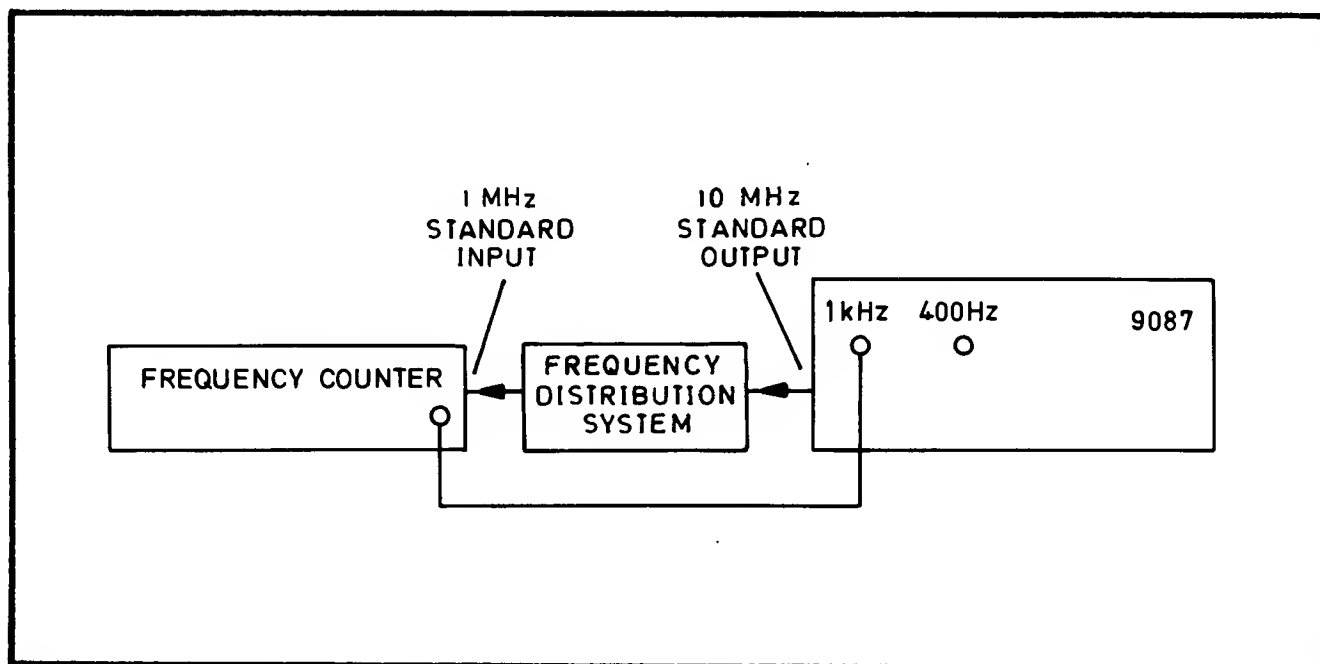

Fig. 7.21. Connections for Audio Output Frequency PVP
7.9.2.4.2 Connect the test equipment as shown in Fig. 7.21.